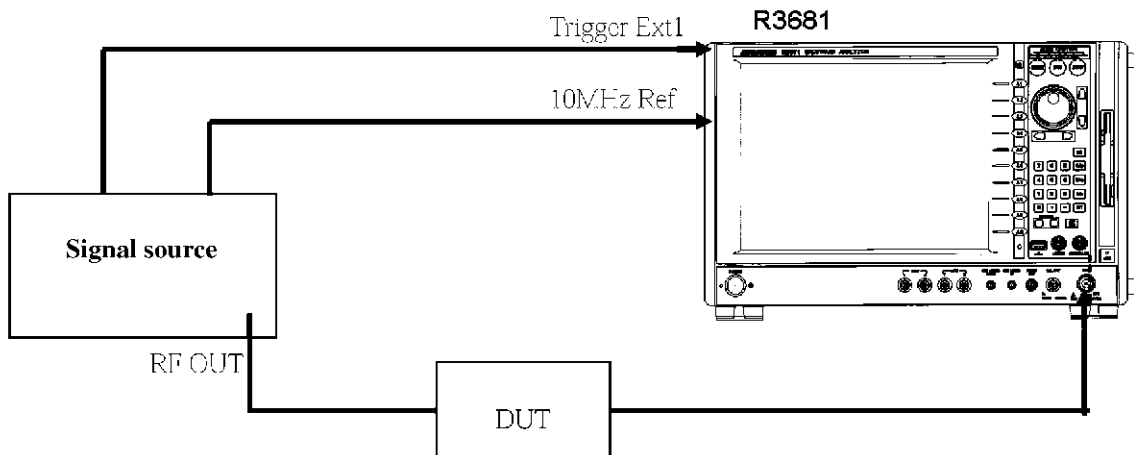

Figure 4-5 Connection Diagram when Executing Measurement
23. Connect the R3681, the signal source, and a DUT as shown in Figure 4-5 (Connection Diagram when Executing Measurement).